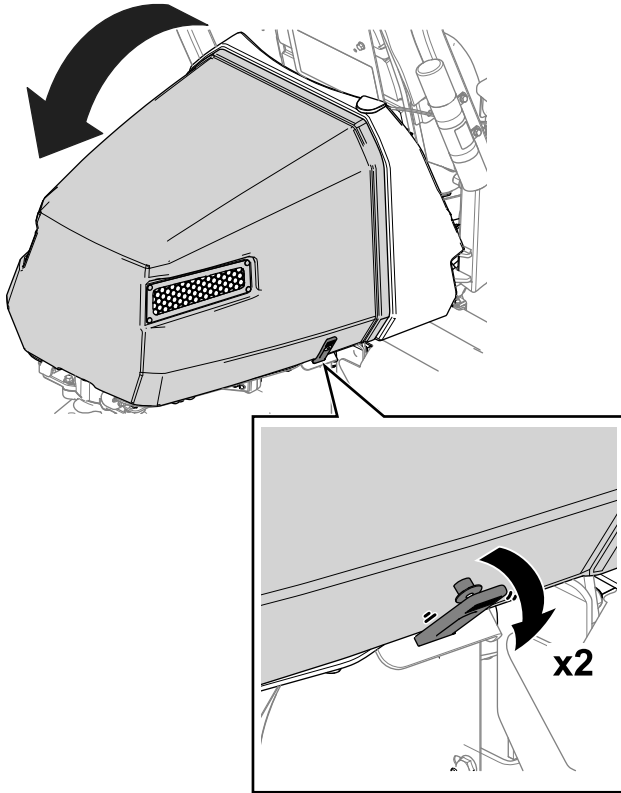

Figure 38
1. Release the straps from each side of the hood (Figure 38).
2. Raise the hood (Figure 38).